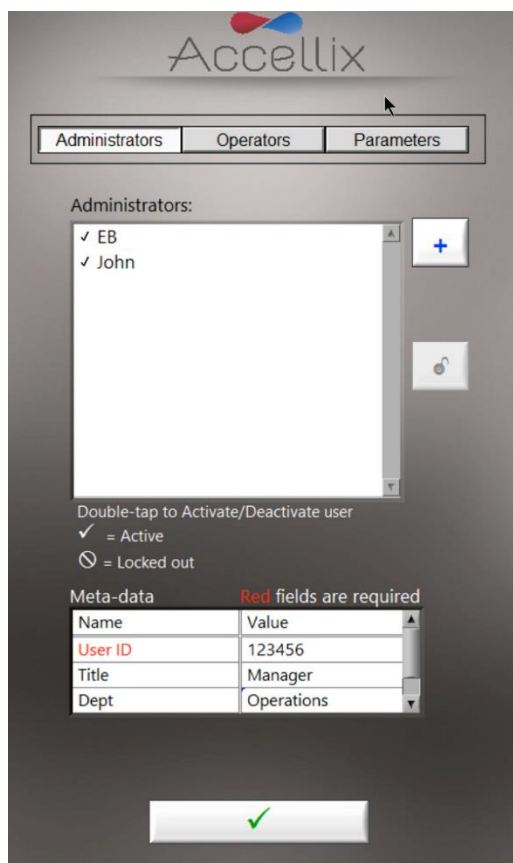

Figure 8: Personnel screen showing example Admin Users with Example Meta-data
1. Tap the **Personnel** icon . The **Personnel** screen (Figure 8) is displayed: